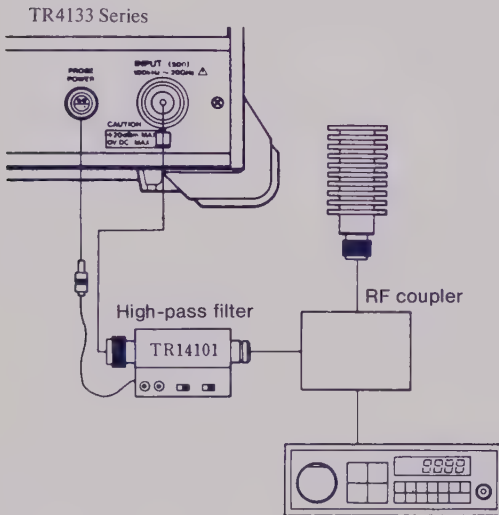

Fig. 3-5 Distortion measurement set up example
- Step 1 Connect a transmitter, RF coupler, and **TR14101** high-pass filter as shown in Figure 3-5. Since the maximum input level which can be applied to the **TR4133** is +20 dBm with an input attenuator of at least 20 dB, the RF coupler output value must be set to a value not in excess of +20 dBm.